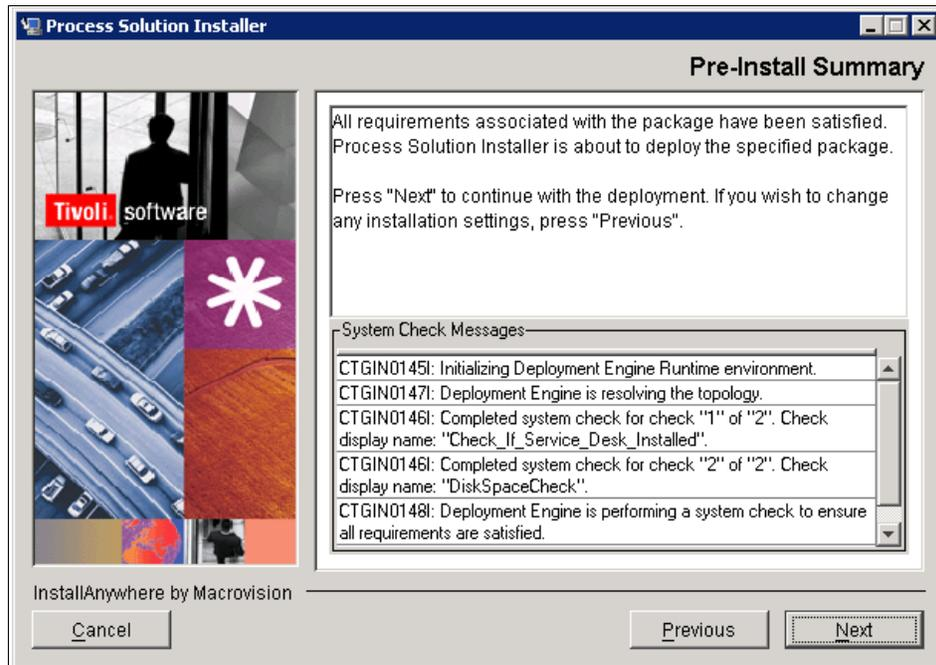

Figure 8-11 Pre-Install Summary
21. If all package requirements are satisfied, you can continue the actual deployment of the package (see Figure 8-11).